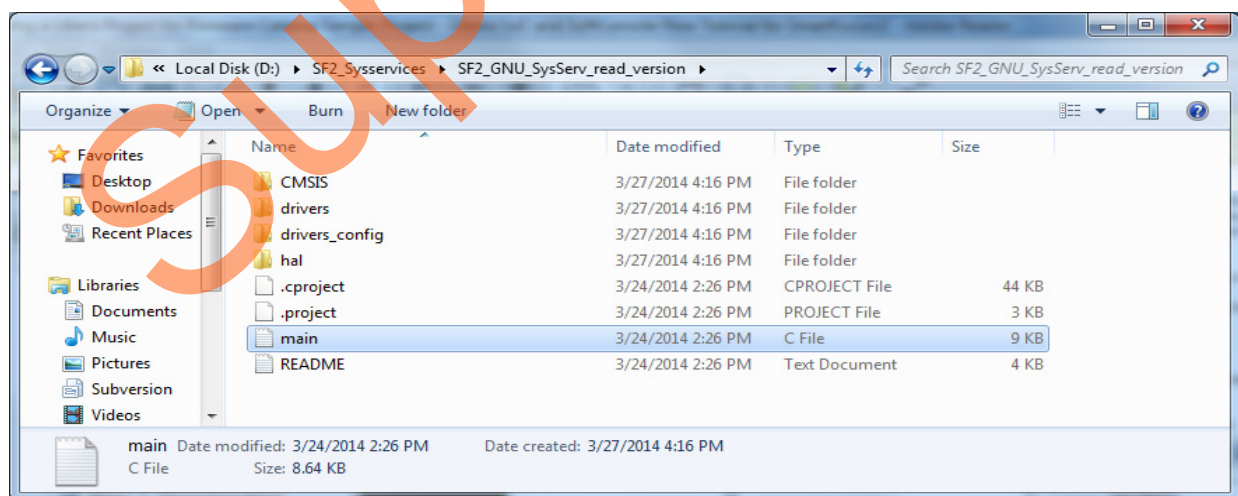

Figure 29 • Sample Project main. c File
1. Go to the location where the SoftConsole sample Firmware catalog project is saved, as shown in Figure 29.